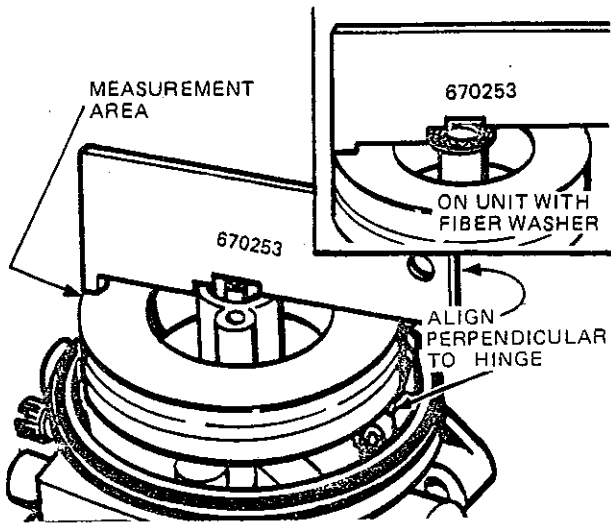

Figure 13
- a. The correct float setting from the rim of the carburetor body to the float is 0.185-0.235 inch (4.70-5.97 mm). Use special tool number 670253 to check float setting as shown in Figure 13.